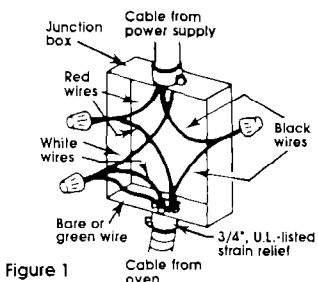

Figure 1
2. Connect the two black wires; then the two red wires. (See Figure 1.)